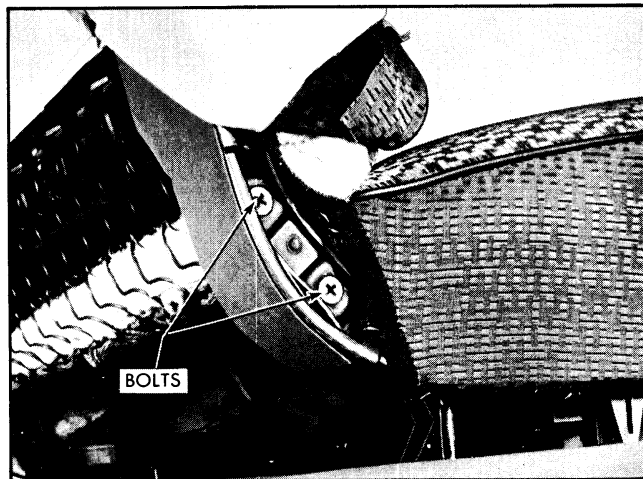

Fig. 18-3 Front Seat Back Attachment
5. At each end of seat remove hog rings securing lower edge of seat back trim from seat bottom frame. Then raise seat back trim to expose bolts securing seat back reinforcement to seat bottom frame. (Fig. 18-3)